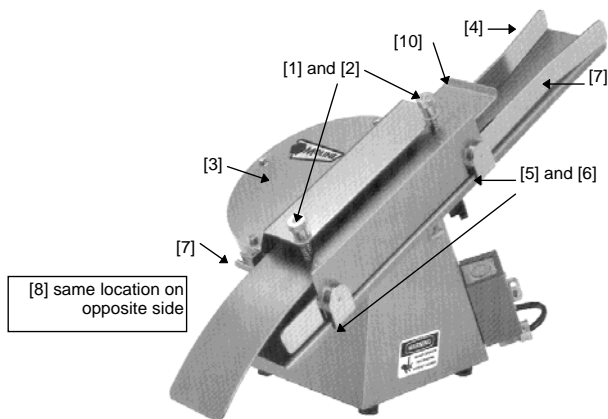

Figure 2
Refer to Figure 2 for part locations. TOOLS REQUIRED: ½" open end box wrench
**NOTE:** Refer to Figure 2, page 5 for part locations. See page 8 for Parts List.
1. Remove the Top Guard [3] by removing the three (3) bolts. (This also removes the Top Guide [10] which is attached to the Top Guard.)
3. Remove the three (3) bolts securing the blade and ***carefully*** remove the blade.
4. Using a 1/8" allen wrench, loosen the two (2) sets of screws holding the motor blade adapter to the motor shaft. Remove motor blade adapter.
5. Turn slicer over, open motor electrical compartment and remove two (2) power wires and ground wire from the motor.
6. Turn slicer on its side, remove the four (4) 3/8" bolts from top of slicer and remove the motor.
7. Place the new motor into slicer base and align with bolt holes on top. Replace the four (4) 3/8" bolts.
8. Attach the two (2) power wires and ground wire from the motor to the electrical compartment.